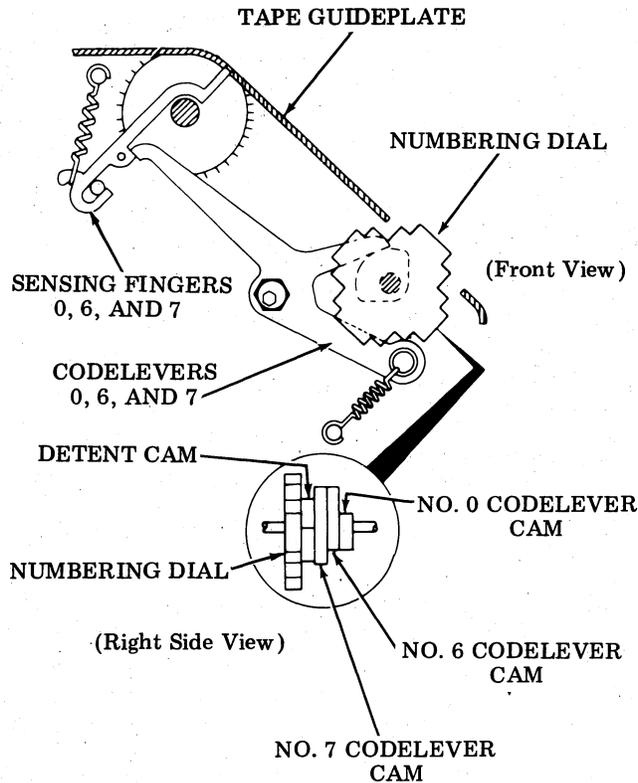

Figure 17 - Universal Tape Reading Mechanism
3.14 The universal tape reading mechanism allows readers, so equipped, to alternately sense 5-, 6-, 7-, or 8-level tapes. Changing from one level to another is accomplished by turning the numbered dial located at the lower left corner of the tape guideplate (Figure 17).